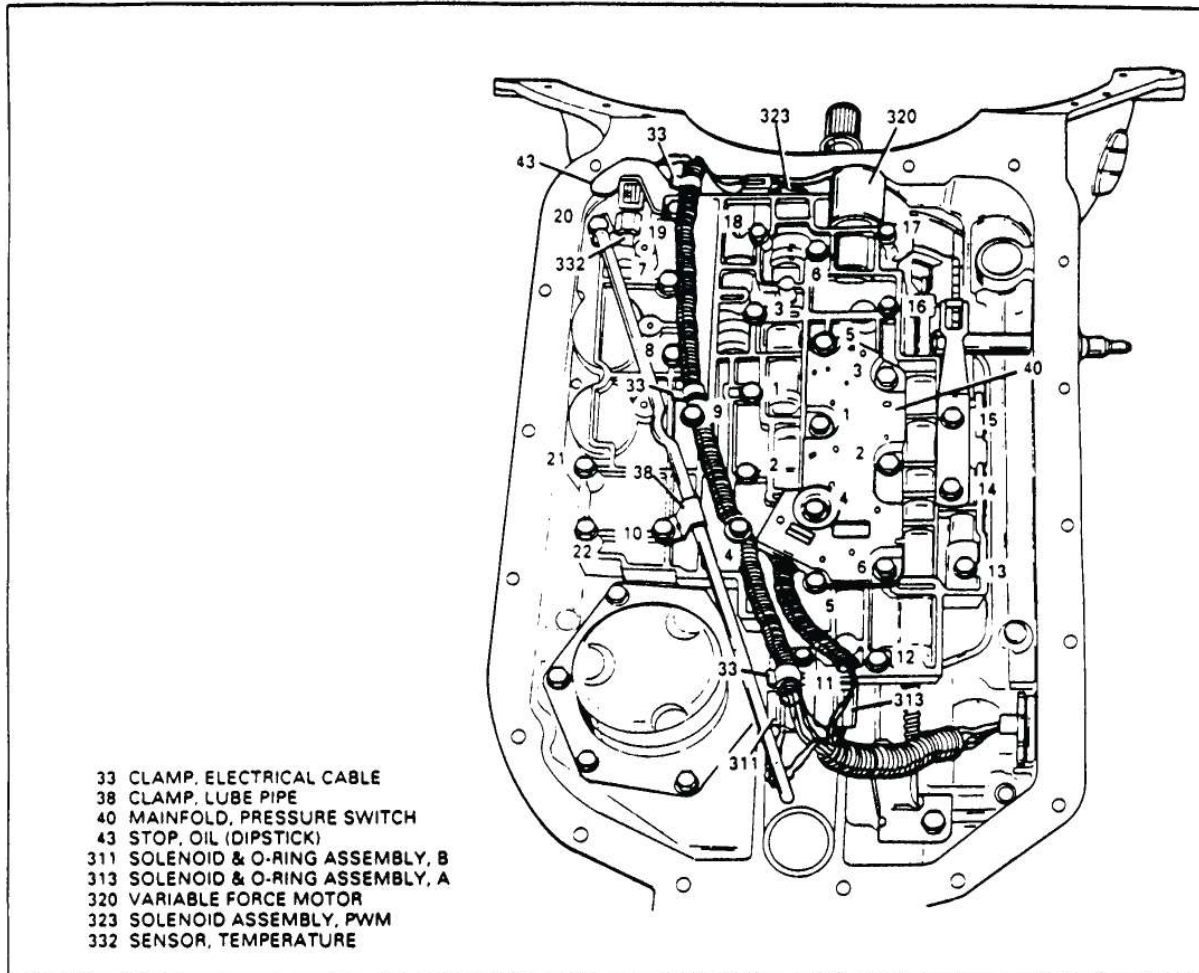

Figure 124
12. Install the pressure switch manifold on valve body assembly (See Figure 124).
15. Install six bolts into the pressure switch manifold (See Figure 124).
16. Install the lube pipe, with the long end into the case (See Figure 124).
19. Install the wiring harness, and attach all connectors. (See Figures 123 and Figure 124).